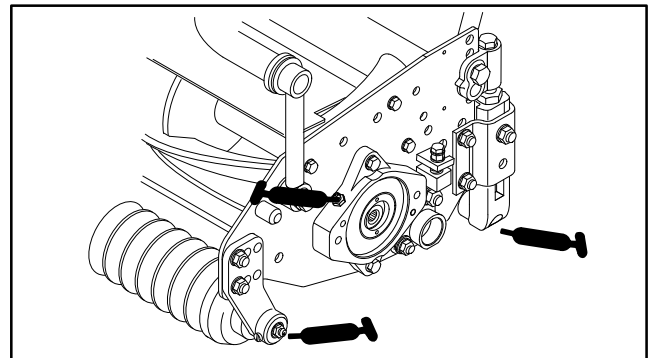

Figure 13
Each cutting unit has (6) grease fittings (Fig. 13) that must be lubricated regularly with No. 2 General Purpose Lithium Base Grease.
The grease fitting locations shown in figure 13 are for each side of cutting unit.